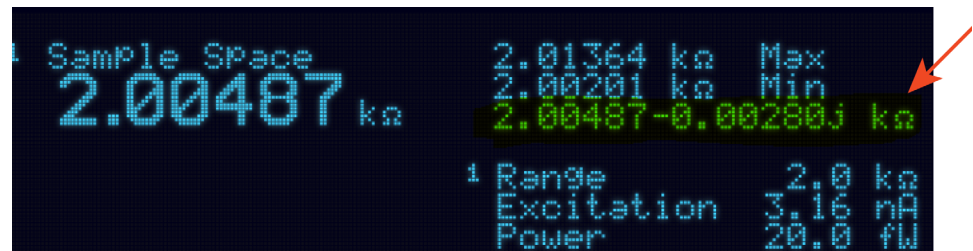

FIGURE 2-4 Display showing impedance measurement
Impedance (Z) is generally represented as $Z = R + jX$, where R is resistance in ohms, j is the imaginary component and X is reactance, also in ohms. This is represented slightly differently in the Model 372 and is shown below in FIGURE 2-4.